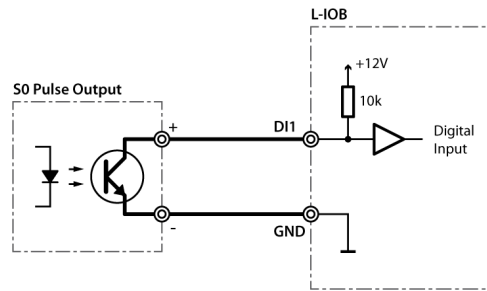

Figure 190: S0 pulse meter connected to DI
S0 pulse meters must be connected to digital inputs (DI) as shown in Figure 190.